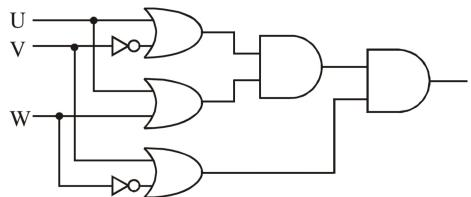

Fig. 3.3
7. Write the Boolean Expression for the result of the logic circuit as shown in Fig. 3.3 (CBSE 2016)